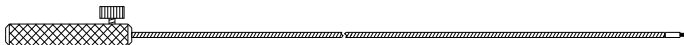

Fig.7 Delivery cable
- 5) Delivery cable (optional) (Fig.7)